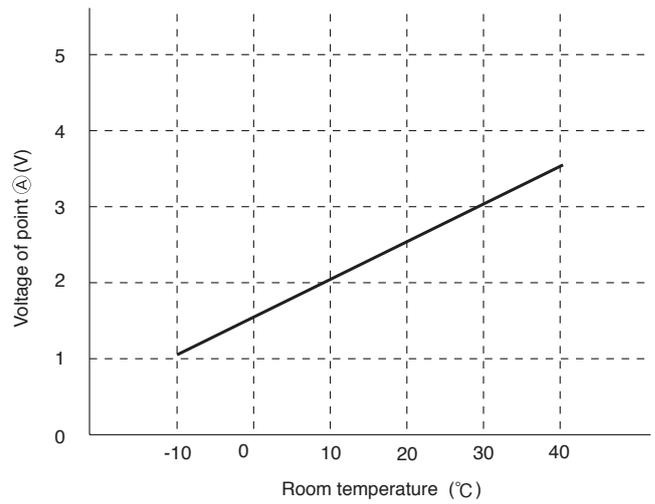

Fig. 4-2
- (1) Preheating
- (2) Low-temperature defrosts at cooling · dehumidification operation time.
- (3) Not working of reversing valve or detection of opening of heat exchange thermistor is controlled.
According to heat exchange temperature, the voltage of point (A) becomes as it is shown in Fig. 4-2.